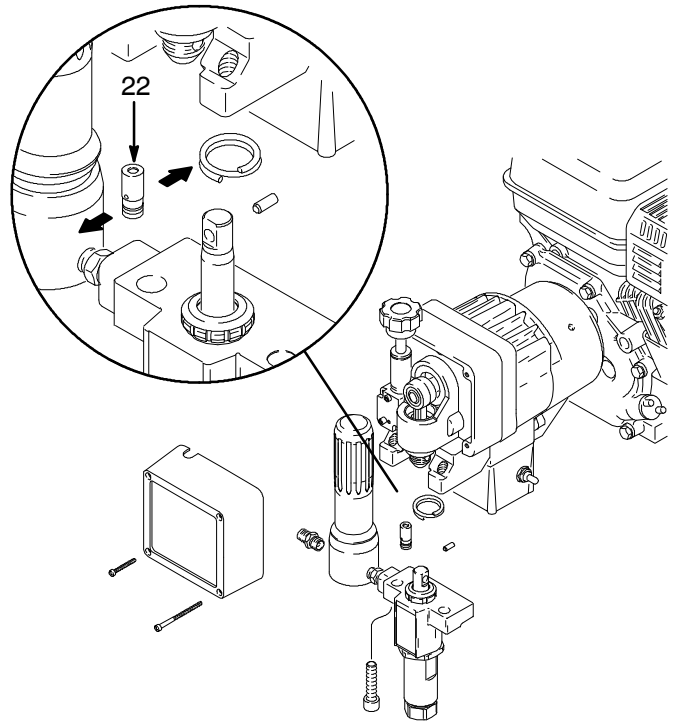

Fig. 12
**NOTE:** See Fig. 12 for this procedure.
2. Use a pull-twist motion to remove the transducer (22) from the pump manifold.
6. Align the holes in the transducer as shown by the arrows in Fig. 12.